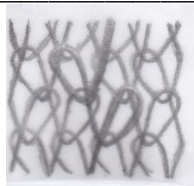

FIG 4
16. Identify the diagram on FIG 4.